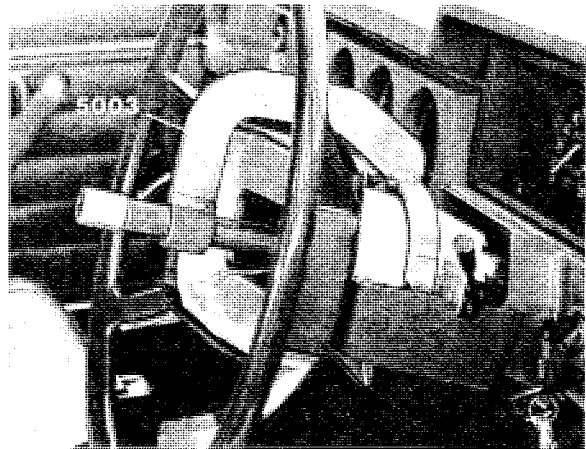

Fig. 6-53. Removing steering wheel
4. Point the front wheels straight forward. Install steering wheel extractor 5003 as shown in Fig. 6-53 and pull off the steering wheel.